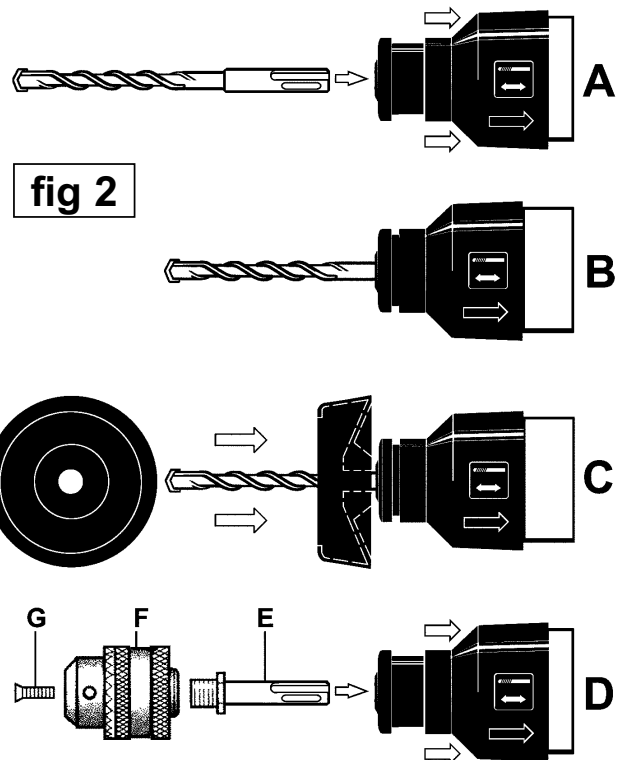

fig 2
### COMPONENT LIST Figure 2.
**3.1.2. Inserting a drill bit/chisel.** Select an appropriate drill bit (or chisel) for the task. Check that it is clean and sharp. Lightly lubricate the shank of the bit, pull drill spindle lock (fig 2-A) back and hold. Insert bit into the spindle carrier and turn the bit until it drops fully into place. Release the spindle lock and check that the bit is firmly held in place (fig 2-B). To remove the bit pull back and hold the spindle lock and lift the bit out.
**3.1.3. Fitting the dust cup.** The dust cup (fig 2-C) is mainly used when drilling vertically upwards and will collect a proportion of the dust and debris generated that might otherwise enter the spindle lock or ventilation on the drill. To use the dust cup attach the appropriate bit and then push the cup onto the bit shaft. Ensure the cup bowl shape is facing toward the tip of the bit.
### 3.2. FITTING THE CONVENTIONAL DRILL CHUCK (See fig.2-D)
3.2.1. Fit the conventional drill chuck (fig.2-F) by screwing it onto chuck spindle (E). Open chuck jaws and lock the chuck with screw (G).
Keep the shanks of drill bits and chisels lightly lubricated. Periodically pull back the drill spindle lock and apply grease to the outside of the bit holder. (See fig.2-A) The hammer mechanism should be greased regularly depending on frequency of use. To access the lubrication area remove the six socket cap bolts (see fig.1-14) holding the black top cover in place (see fig.1-13). To aid easy removal and replacement of the top cover also loosen the two socket cap bolts holding the upper end of the handle (see fig.1-15) and ease it back slightly so that it no longer covers the rear edge of the black cover. Lift the cover off to reveal the mechanism taking care not to disturb the gasket that seals the lubrication area. Replace the grease with a fresh quantity from the tub of grease supplied. Carefully replace the cover ensuring that the gasket is properly seated and secure with the six socket cap bolts. Retighten the two bolts at the top of the handle. If these components are not correctly greased the drill may seize causing permanent damage, and invalidating your warranty.